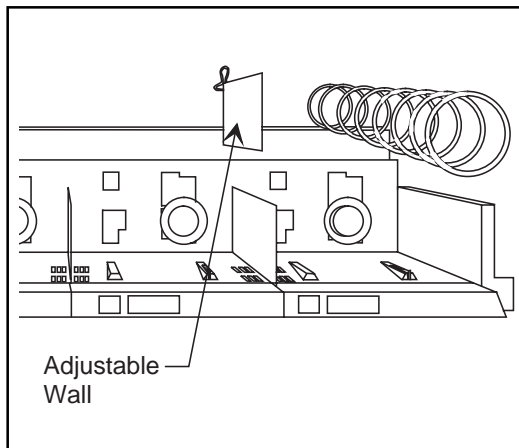
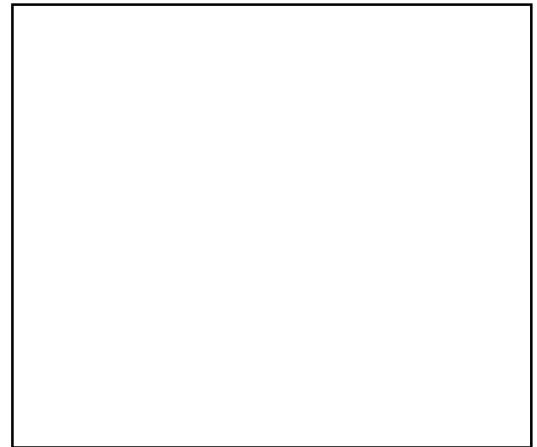

Figure 1-1
Figure 1-2
10. Three (682), four (688) and five (687) selection shelves feature an adjustable wall to the left of the far right spiral. The wall can be installed in any one of the four positions in the bottom of the tray. After adjusting the wall for the desired width, check to be certain that the product moves freely when the selection on each side of the adjustable wall is vended (See *Figure 1-1* and Page 6-22). Additional tray walls are shipped with each machine and can be installed in the pastry tray slots to accommodate the narrower items. On 6, 8 or 10 selection trays, the adjustable wall swings out from the right side of the shelf wall (See *Figure 1-2*).